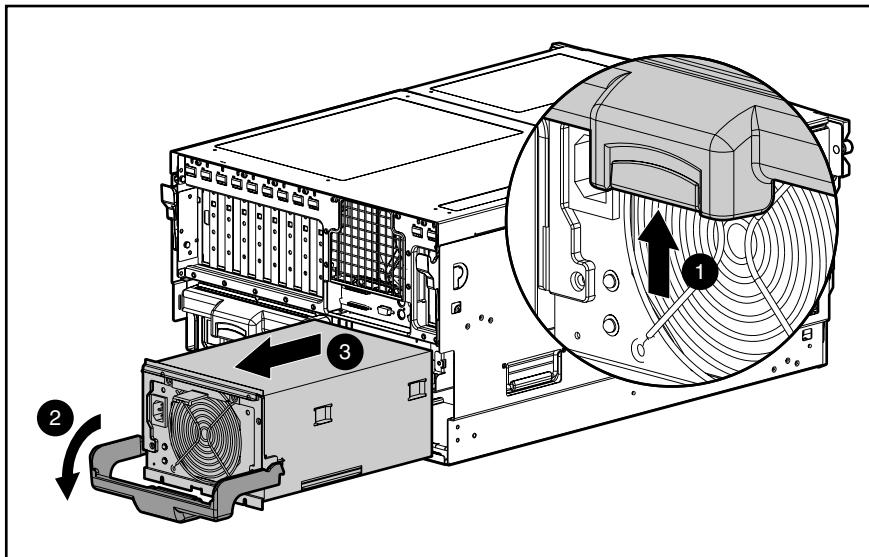

Figure 2-52. Removing a hot-plug power supply
2. Squeeze upward on the release tab in the middle of the power supply handle ①.
3. Rotate the power supply handle down ② and slide the power supply out of the chassis ③ as shown in Figure 2-52.